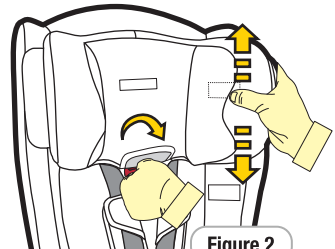

Figure 2
**Step 3:** Lift up or push down the headrest so that the shoulder strap slots are level with or slightly above your child's shoulders. If the headrest is just above the shoulders then the harness level will be correct (refer Figure 2 & 3).